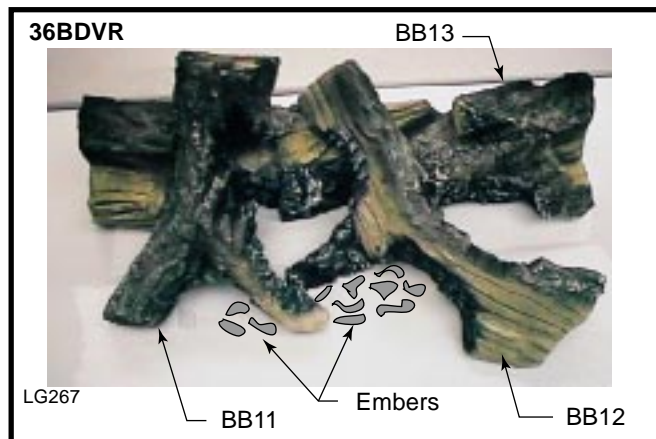

Fig. 39 36BDVR log placement.
Refer to Figure 39
6. Scatter the ember material over the front area of the burner housing assembly. (Fig. 39) Do not pack this material tightly, separate it when unpacked and keep it in a loose condition.